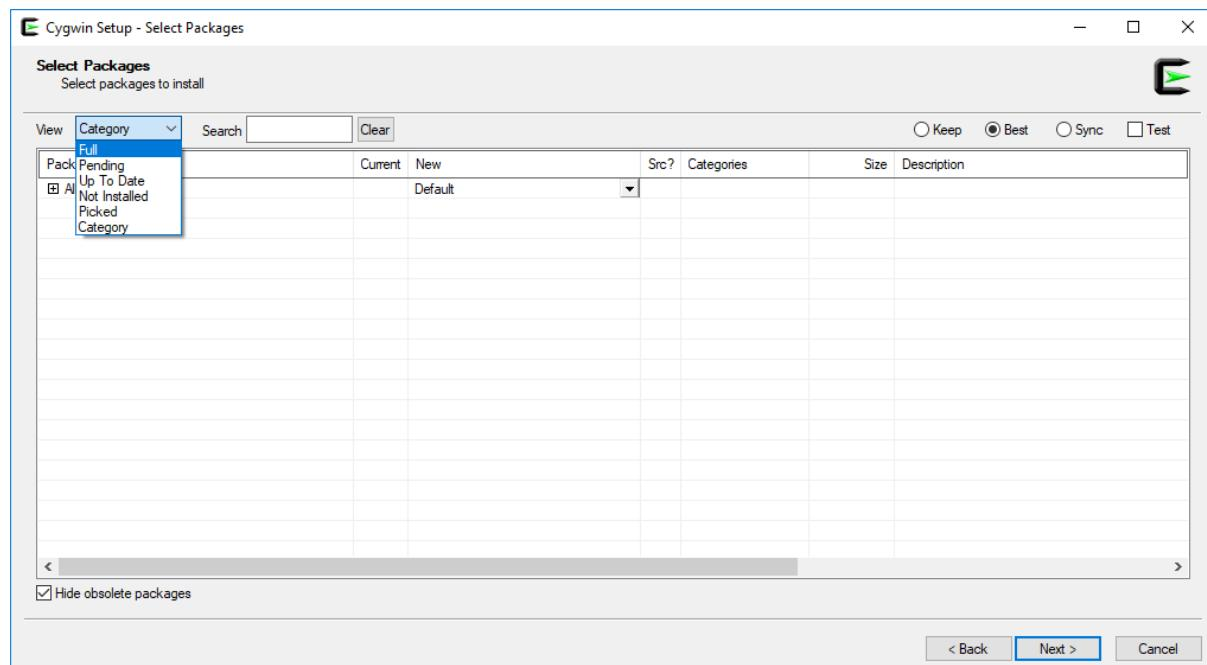

Figure 104. Select Packages window
3. After several steps, you will reach the **Select Packages** window (Figure 104). Select the **Full** view, as shown in Figure 104.